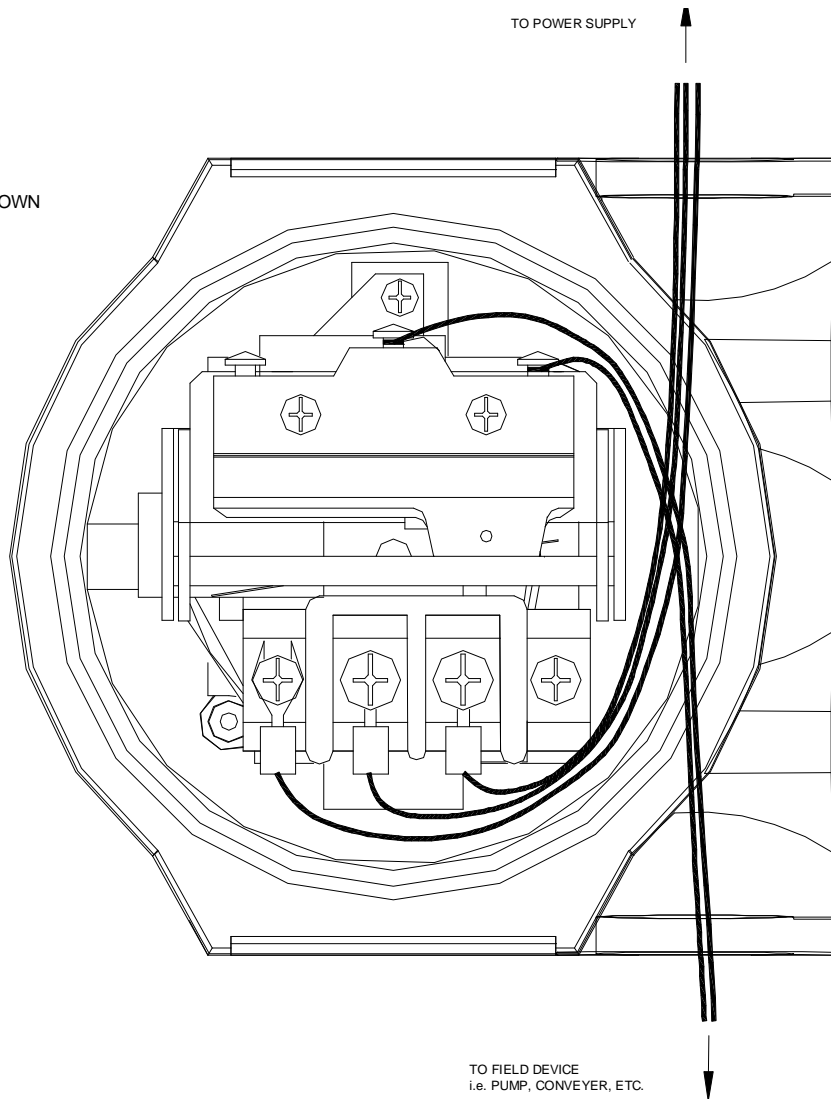

Figure 8
12. **Figure 8** indicates the recommended field wiring paths inside the housing to ensure proper switch operation and to eliminate crimped wires when the cover is screwed in place. All efforts should be taken to run the field wiring as shown here.